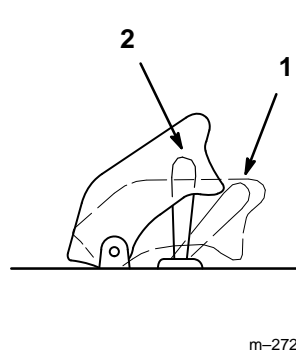

Figure 3
3. Move the PTO (power take off) to “OFF” (Fig. 3).